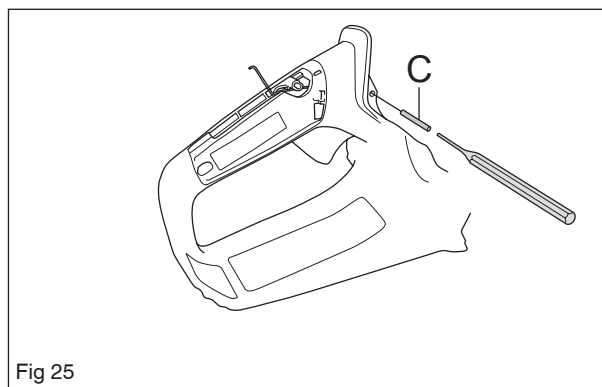

Fig 25
2. Fit the throttle control's pin (C) using a punch. See figure 25.